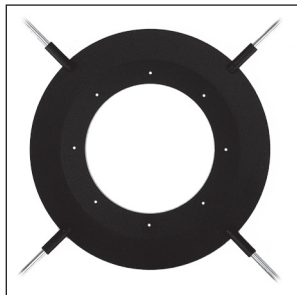

Bild 1
- Stick the rods with the larger ending into the sleeves of the rotating base plate (fig. 1).